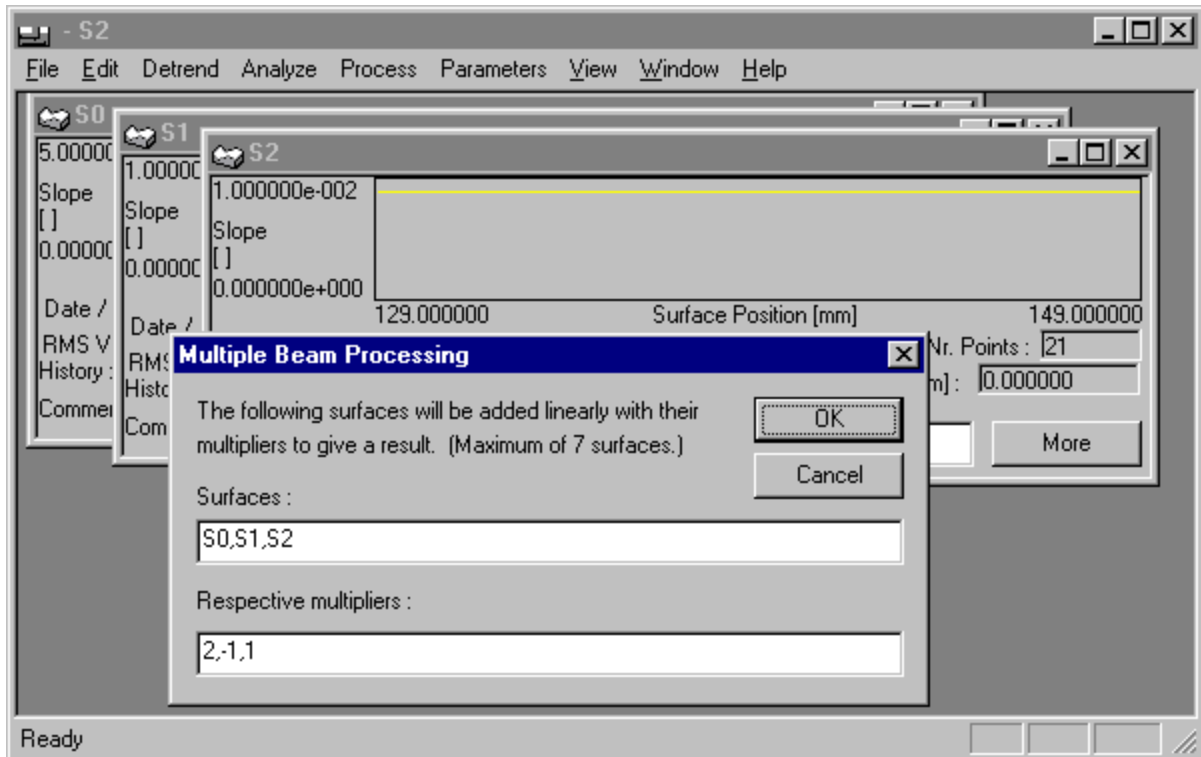

Figure 4.3 Processing the several primitive slope functions ...
4.3 After successful conversion of all x positions, a surface data window should appear for each of the patterns converted (SUT, internal REF, and external REF if three patterns are recorded). Each surface data window displays slope as a function of x, and the I2S window disappears (Figure 4.3).